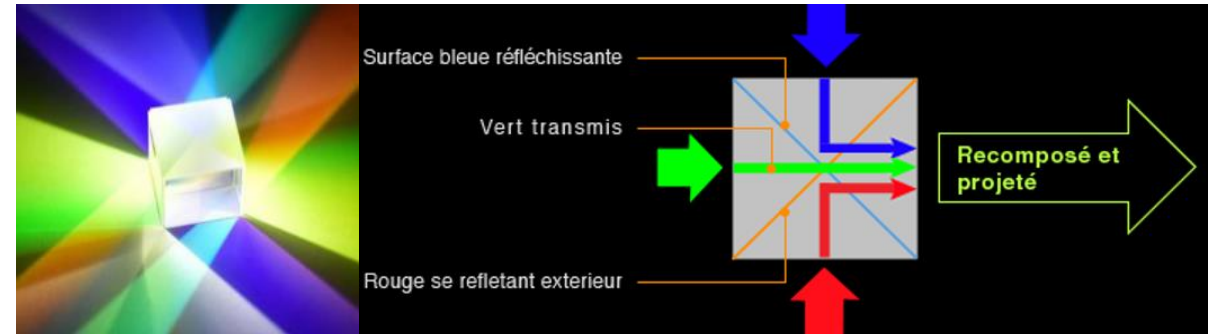

Figure4-5 Optical cube
- 3 primary color aliasing by optical cube and kaleidoscope (*fig.4-5*)